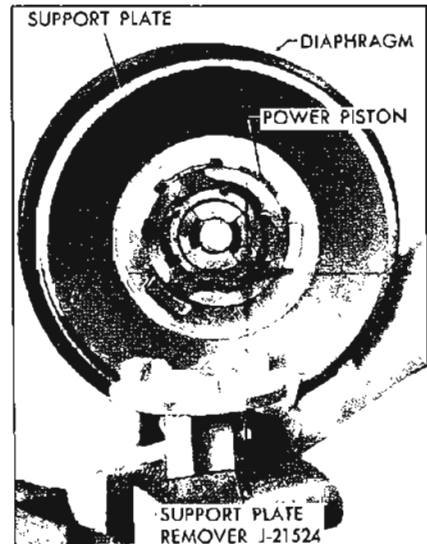

Figure 9-49—Position Power Piston in Wrench
3. Place the Power Piston Wrench, J-21542 in a vise. Position the power piston on the wrench with the three lugs fitting into the notches in the power piston. See Figure 9-49.